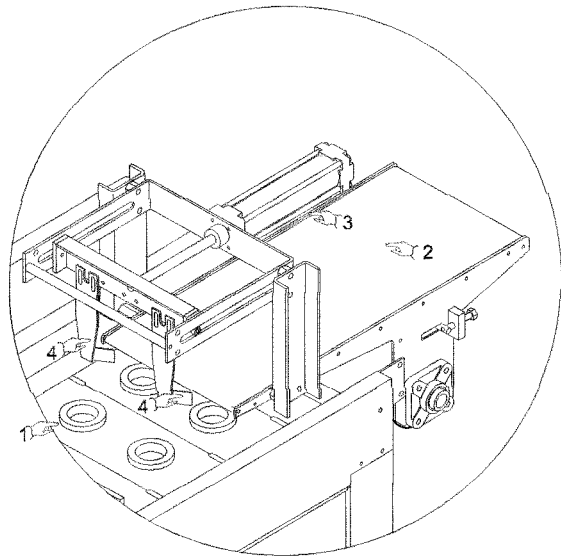

Fig. 7.6
- 1 - Unscrew the lock-nut (*Pos.1, Fig.7.6*) and ad-
just the tensioning screw (*Pos.2, Fig.7.6*) until the correct working tension is obtained;
- 2 - Tighten the lock-nut (*Pos.1, Fig.7.6*).